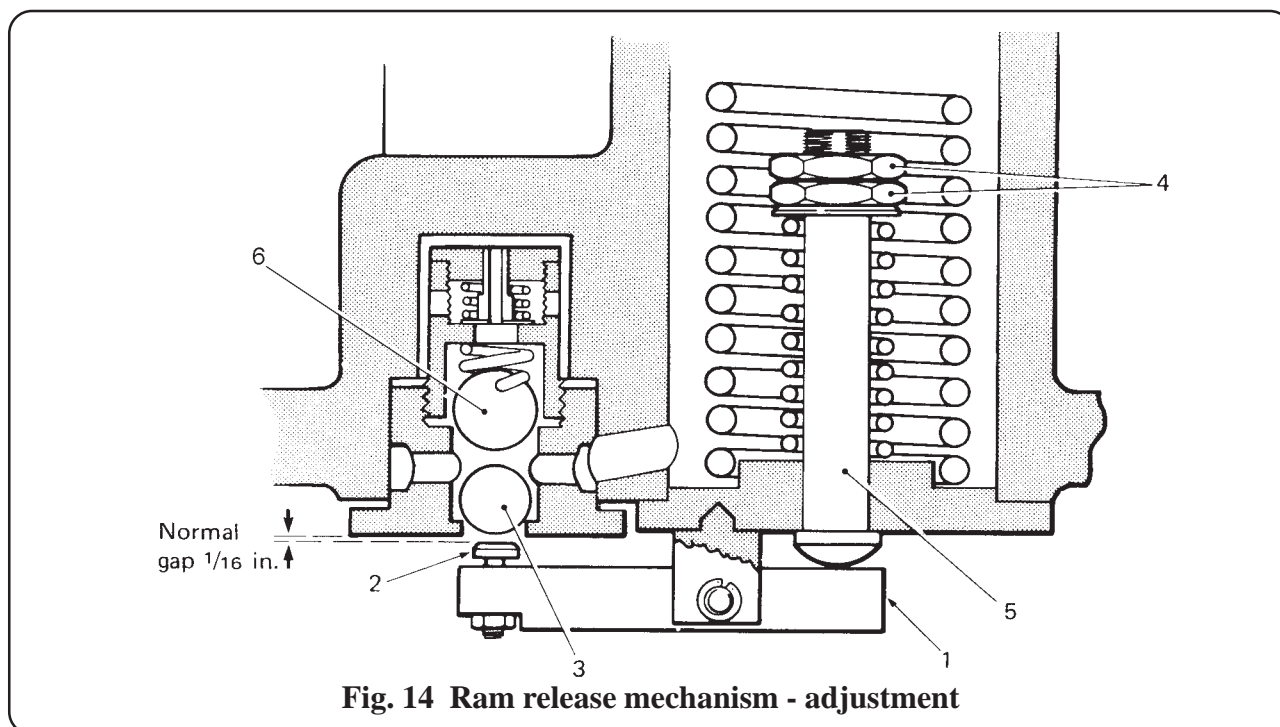

Fig. 14 Ram release mechanism - adjustment
- ii Examination of the ram release movement must now be carried out. Refer to Fig. 14. When the pump lever is depressed fully, this operates the ram release lever (1). The ram release lever pivots and the release screw (2) enters the ball valve and should lift both balls (3 and 6) at the end of lever travel. Before testing this movement, the pressure in the ball valve should be overcome by forcing the release lever into the ball valve after covering the cylinder with a cloth to avoid leakage of oil under pressure.
- iv Refer again to Fig. 14. Adjustment consists of unscrewing, in a clockwise direction, the two large lock nuts (4) on the end of the release plunger (5) to allow more movement of the ram release lever. This is in order to cause the ball of the ball valve to be lifted further and so release the table ram. (For a more detailed explanation of the hydraulic system, refer to section 4.60 and 4.61).